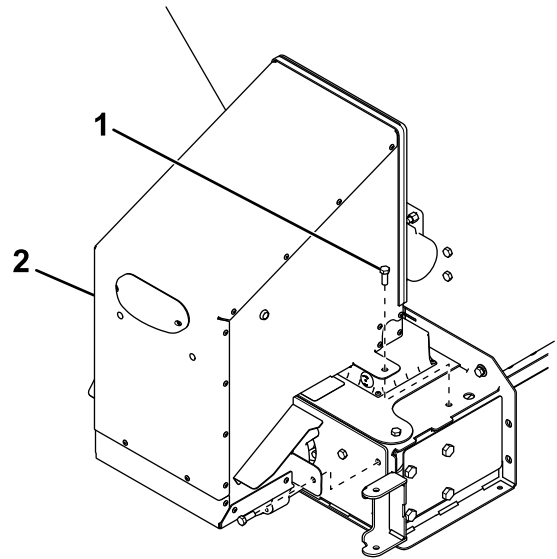

**Figure 1**
- For VBX spreaders, remove the plastic clips securing the rear cover to the hopper (Figure 1).